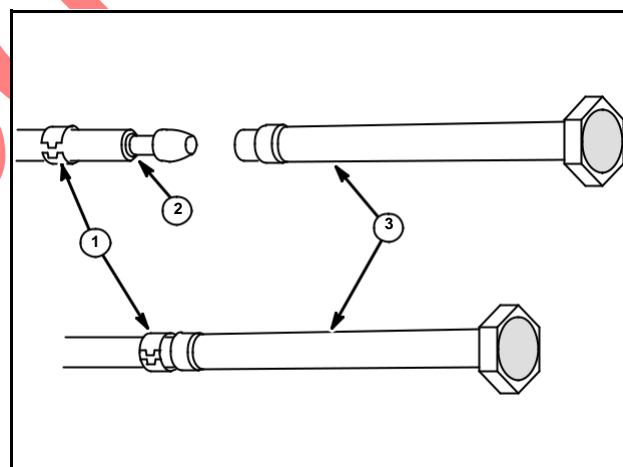

Fig. 24
2. To remove nylon pick-up tube extension from brass pipe, slide retaining clip (1) up onto brass pipe (3), Fig. 24.
2. Slide new retainer clip onto brass pipe. Heat small end of new nylon tube in hot water and push onto brass pipe. Slide retaining clip down onto nylon tube over groove on brass pipe, Fig. 24.